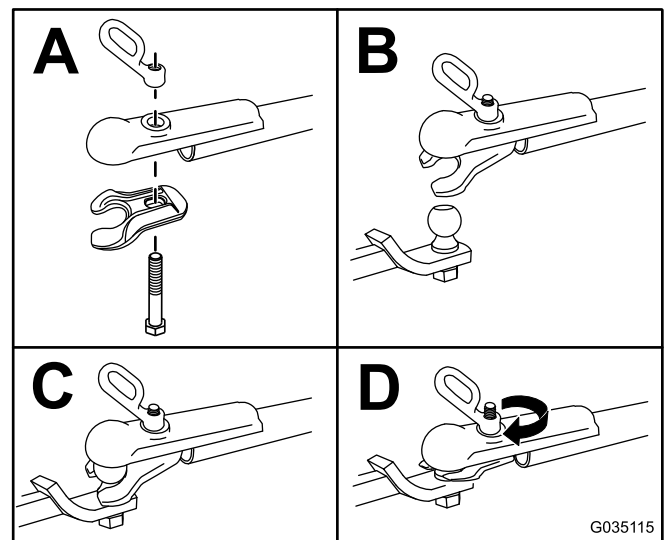

Figure 22
3. Hitch the machine as shown in Figure 22.